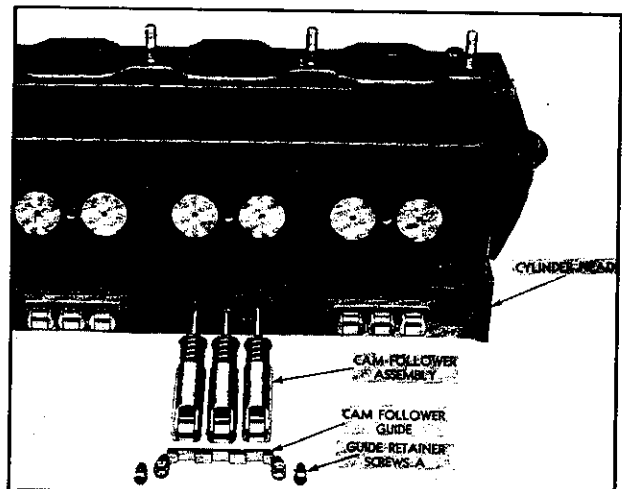

Fig. 13—Cam Followers and Retainer Assembly.
tom, the cylinder head must first be removed, and when they are removed from the top, the cylinder head need not be removed. If for any reason the cylinder head is off the engine, the cam followers can best be removed from the bottom of the head as shown in Fig. 13.
2. Lay the cylinder head edgewise on the bench, as shown in Fig. 13, and remove the two screws "A" that attach the valve follower guides to cylinder head and remove guides.